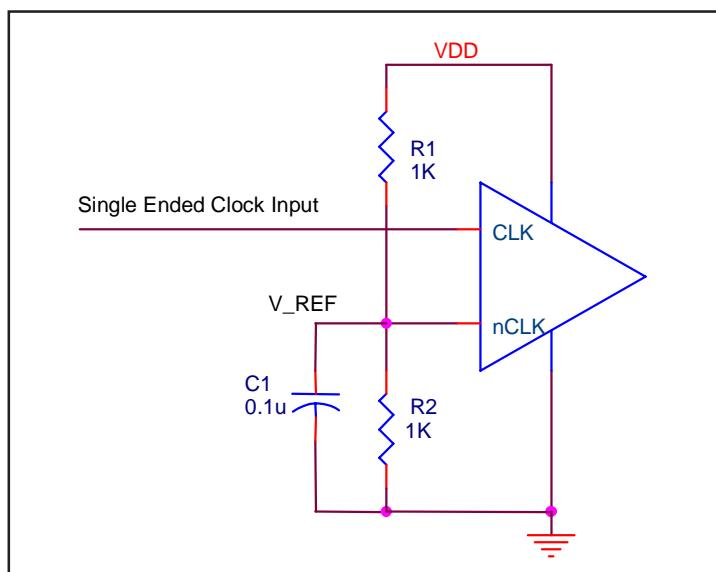

FIGURE 2. SINGLE ENDED SIGNAL DRIVING DIFFERENTIAL INPUT
*Figure 2* shows how the differential input can be wired to accept single ended levels. The reference voltage  $V_{REF} = V_{DD}/2$  is generated by the bias resistors  $R1$ ,  $R2$  and  $C1$ . This bias circuit should be located as close as possible to the input pin. The ratio of